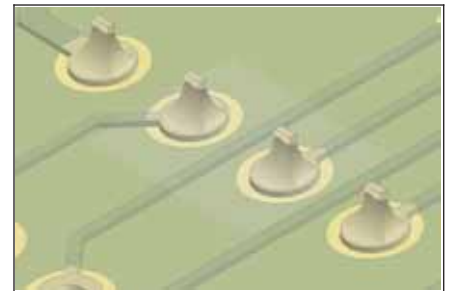

Figure 2 Repair complete.
5. Apply the replacement coating to the board surface as required. A brush or foam swab may be used to apply and spread the replacement coating. (See Figure 2.)